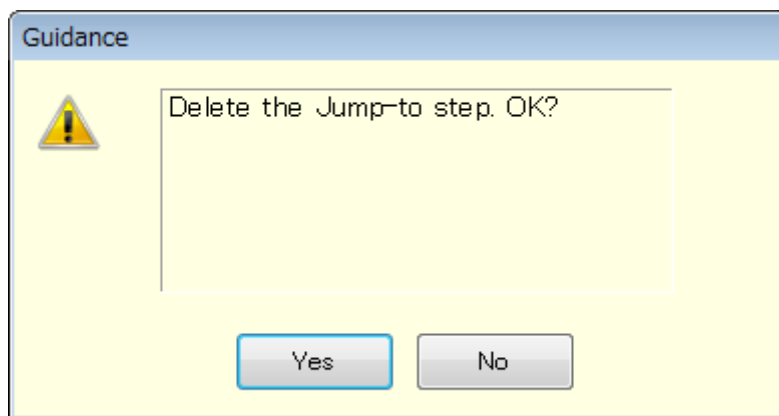

Figure 5-7 Confirmation Dialog for Deleting a Step
- When a step that is set as the destination of any jump-to step or branch step is deleted, the dialog as shown in Figure 5-7 appears. When you select **Yes**, the step is deleted and then the step number of the jump-to or branch step is automatically updated to disable. If you select **No**, deletion of the step is canceled.